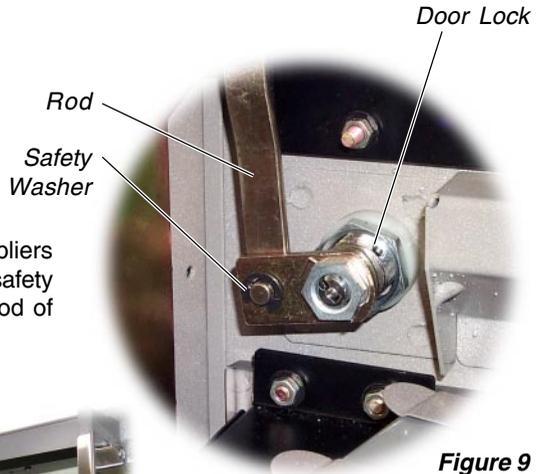

Figure 9
- 3.- With the help of some round-edged pliers or a flat head screw driver remove the safety washer joining the door lock to the rod of the closure bar. See **figure 9**.